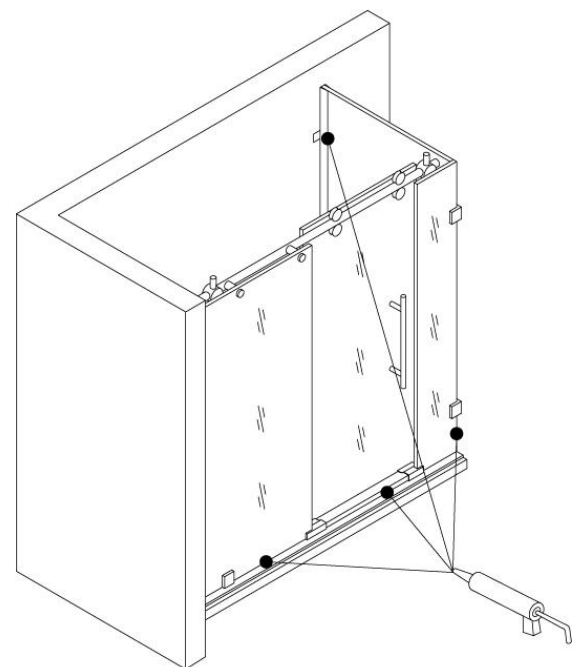

FIG. 14
1. Apply silicone caulk along the wall and floor of the shower enclosure interior. [SEE FIG.14]